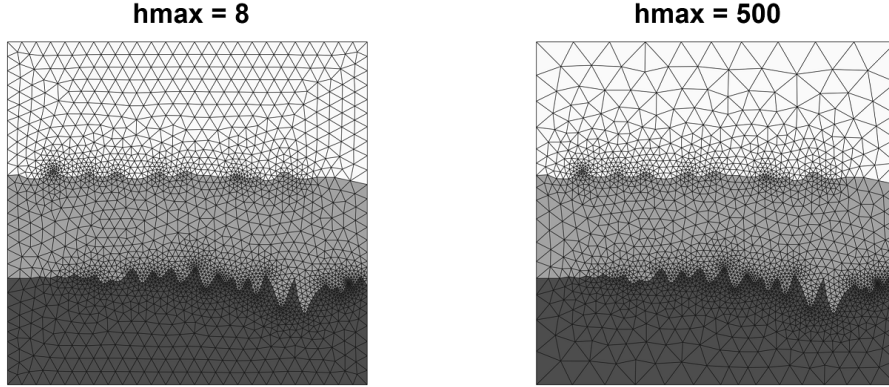

Figure 9: Effect of *Max Mesh-size*
- *Max Mesh-size*: Maximum mesh edge lengths. This is an approximate upper bound on the mesh edge lengths (Figure 9). Type: Float. Range: > 0 .